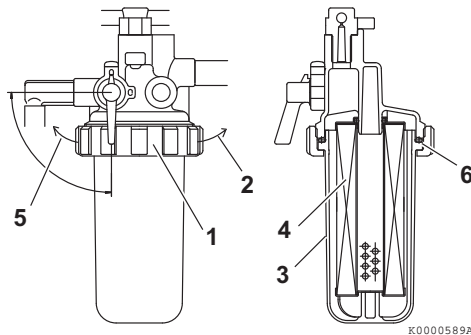

Figure 15
3. Turn the retaining ring (**Figure 15, (1)**) to the left (**Figure 15, (5)**).
4. Carefully remove the cup (**Figure 15, (3)**). Pour the fuel into an approved container and dispose of waste properly. Hold the bottom of the cup with a shop towel to prevent the fuel from dripping. Wipe up any spills immediately.
5. Remove the fuel filter element (**Figure 15, (4)**) by pulling it down.
8. Check the condition of the O-ring (**Figure 15, (6)**). Replace if necessary.
9. Install the cup to the mounting flange and turn the retaining ring (**Figure 15, (1)**) to the right (**Figure 15, (2)**). Hand-tighten only.